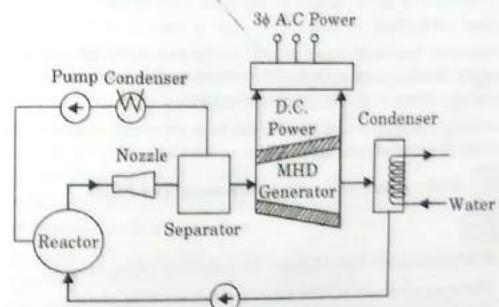

Fig. 3.11.3. Closed cycle liquid MHD generator.
1. Fig. 3.11.3 shows the schematic diagram of closed cycle liquid metal MHD generator.